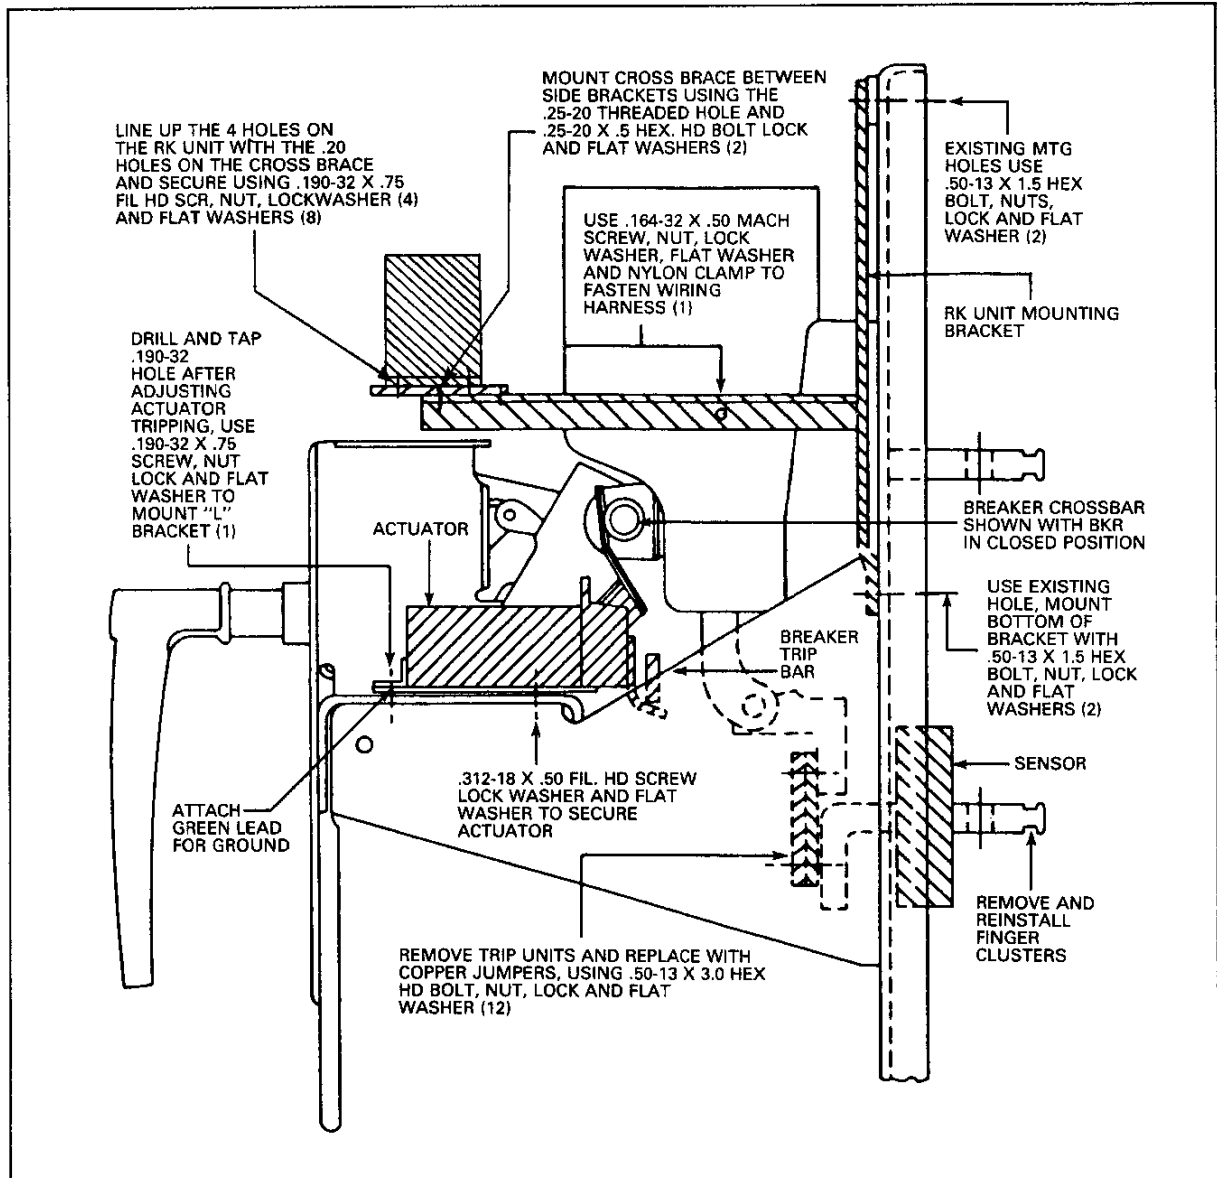

Fig. 8 Right Side View of DB-50 Breaker
5. Review the photographs to acquaint yourself with the items and location. Especially the right side view of the breaker Fig. 8.
*Note: Kits contain more hardware than required due to multi-purpose use, check right side view Fig. 8 for number and size of hardware.
1. The RK mounting details consist of two (2) 'T' shaped mounting arms, one left and one right and a 4" x 19" x 1/8" cross plate. Remove the existing bolts at the top of the breaker rear frame, place the mounting arm over the lift bracket and secure with .5-13 x 1.5 bolt. Now using the existing hole and .5-13 x 1.5 bolt secure bottom end of arm. See Fig. 8.
2. Mount the cross plate with the two (2) .203 holes next to the breaker arc chutes on the left and right hand arms using the .25-20 tapped hole, and .25-20 x .5 bolt and washers, Fig. 8.
3. Locate the four (4) .208 tapped holes on the cross plate, line these holes up with those on the RK unit and secure using .190-32 x .75 fillister head screw washers, lockwashers and nut. See Fig. 8.